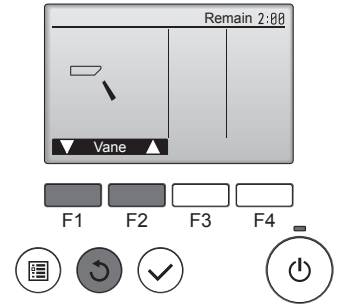

Fig. 6-6
- Check the auto vane with the **F1** **F2** buttons. (Fig. 6-6)